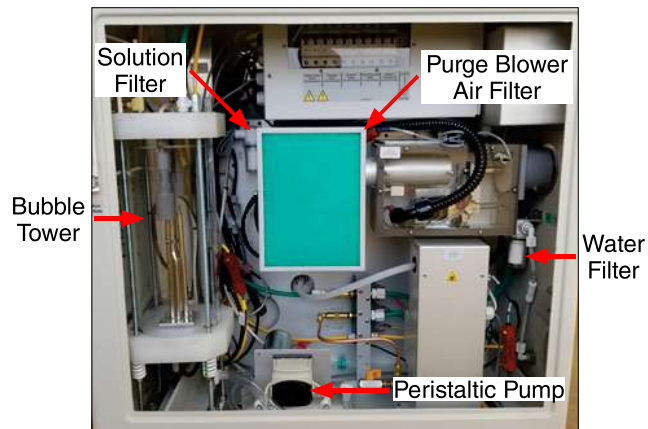

Figure 14.1a: Location of components requiring maintenance.
1. **Peristaltic Pump Tubing:** Check for signs of wear, replace as necessary or once a year (Figure 14.1a and Figure 14.1b).
2. **Bubble Tower:** Drain and allow to refill with clean water (Figure 14.1a and Section 8.2).
7. **Solution and Main Water Filters:** (Figure 14.1a). Replace every year.
8. **Purge Blower Air Filter:** Clean with air hose or vacuum cleaner (Figure 14.1a). Replace every year.